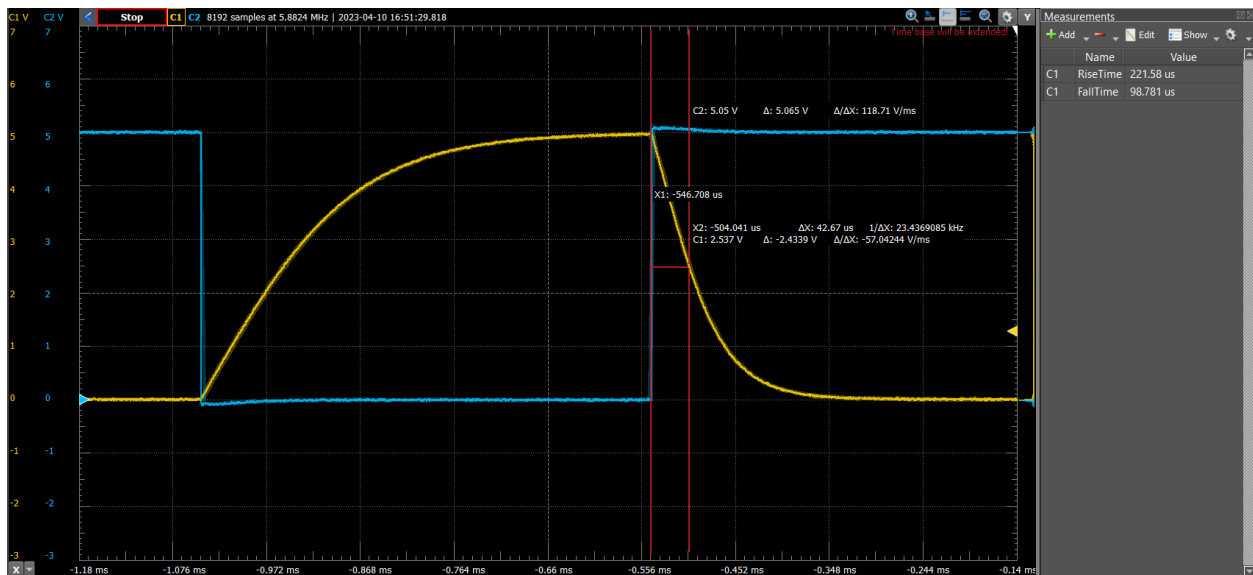

Figure 5: Graph of the Capacitor Rise time with TPHL
- ii. From Figure 5 and 6 respectively: